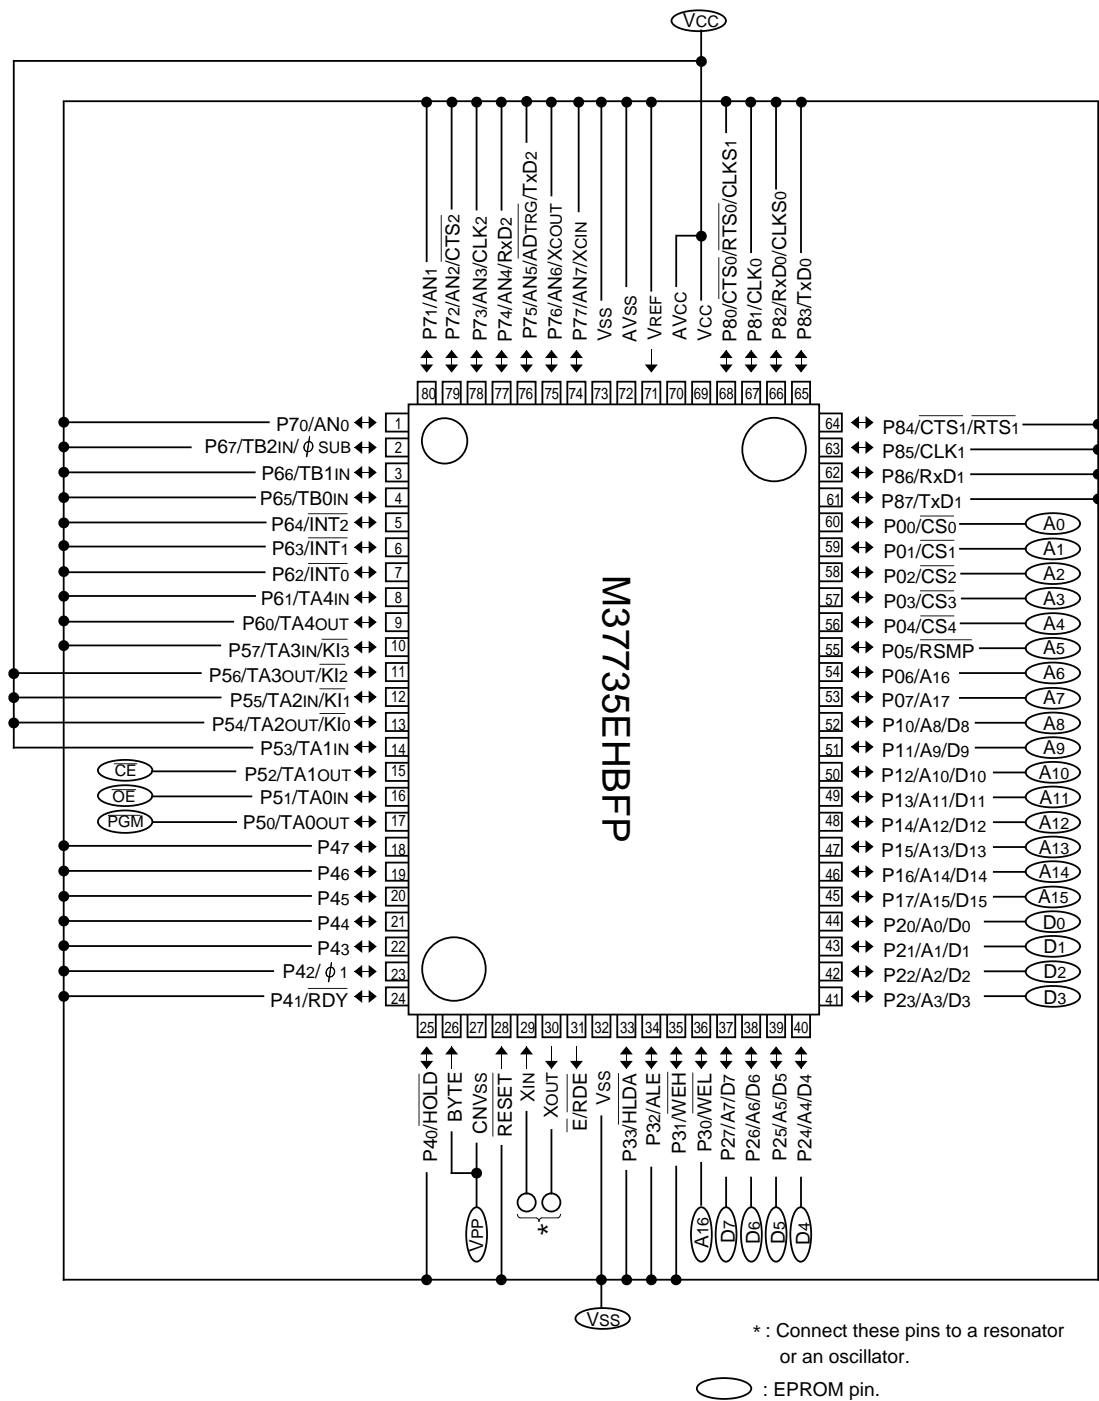

Fig. 19.1.1 Pin connections in EPROM mode (M37735EHBFP)
- **Figures 19.1.1 and 19.1.2**